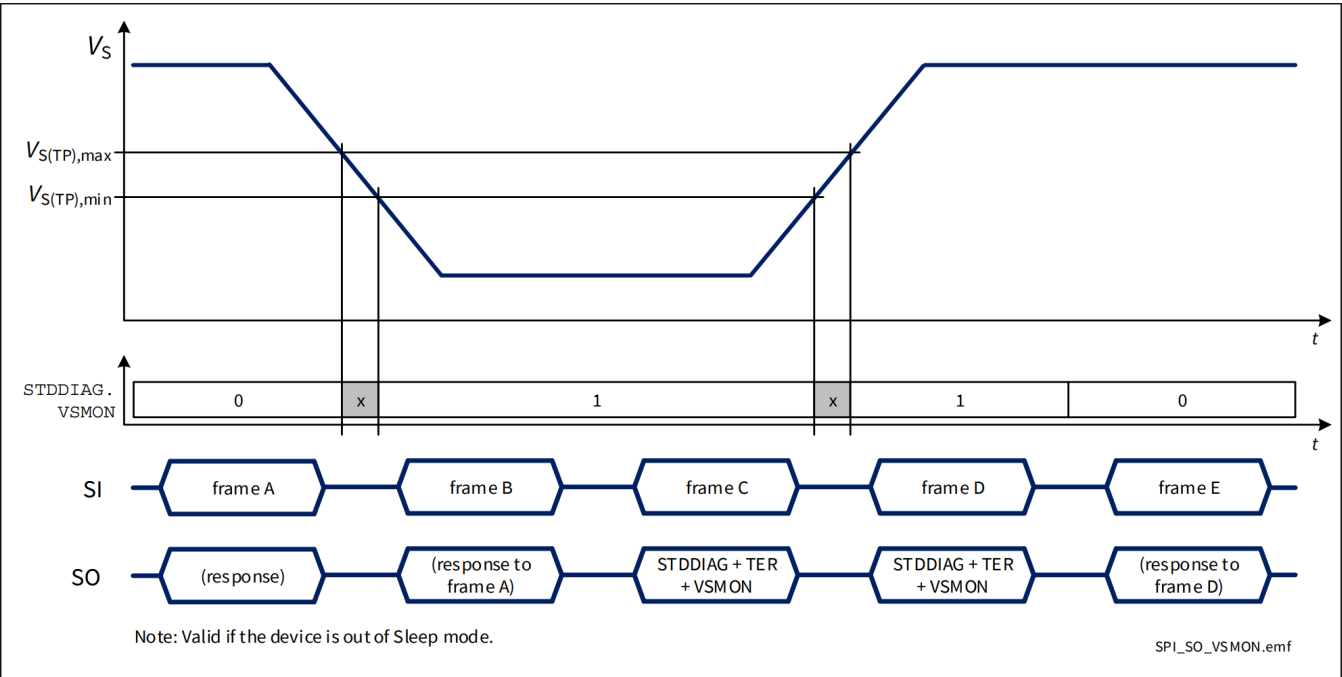

Figure 45 SPI response in case of voltage drop on battery
- 当 $V_S < V_{S(TP)}$ 且 $\text{DCR.MUX} \neq 111_B$ ，如图 45 所示